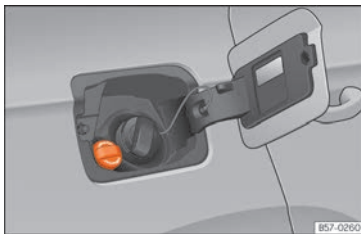

Fig. 217 AdBlue tank cap.
- Open the tank cover >>> Fig. 217.
»» Fig. 217.